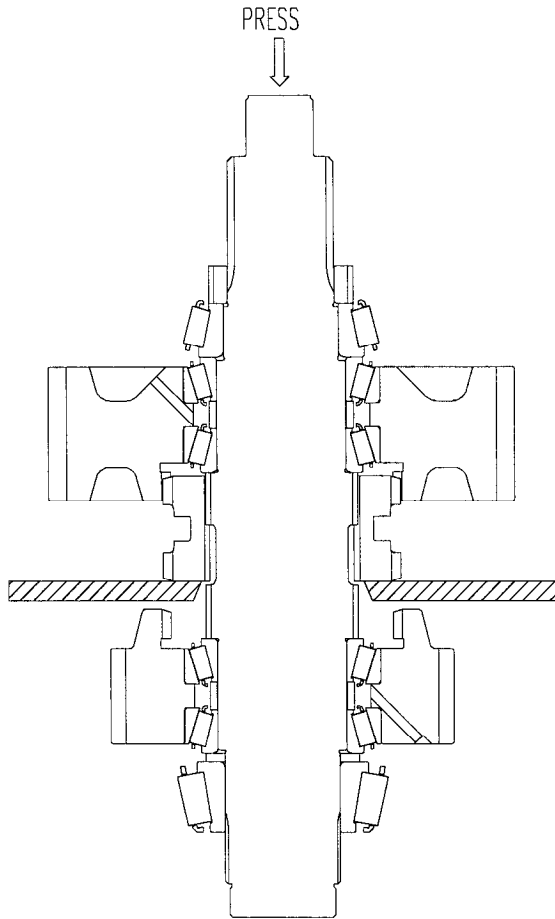

Fig. 37
3. Engage the clutch collar gear into the underdrive gear. Place the shaft assembly in a press such that the face of the clutch collar gear is supported by the separator and the press arbor is against the smaller threaded end of the shaft. *See Fig. 37.*